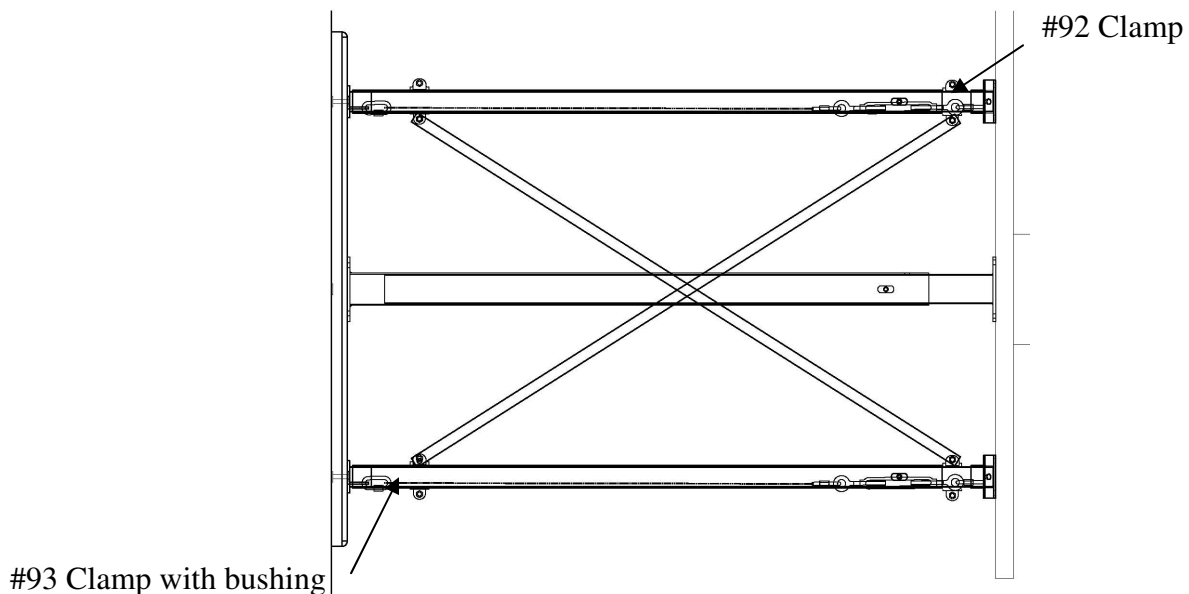

Figure 11. Cross bracing example.
12) To further brace the unit, the strap bracing should be installed on the upper extension arms. To complete this, the #93 clamps with bushings should be attached to the outer extension pipes. On the inner pipes, as close to the outer pipe as possible, attach #92 clamps. Before tightening down the carriage bolts, install the strap bracing on each clamp as shown in figure 11. Secure the two braces together with a hex bolt and lock nut.